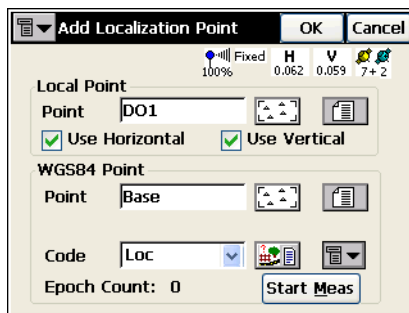

Figure 6-2. Add Localization Point
2. In the *Add Localization Point* screen, set the following parameters, then tap **OK** (Figure 6-2):